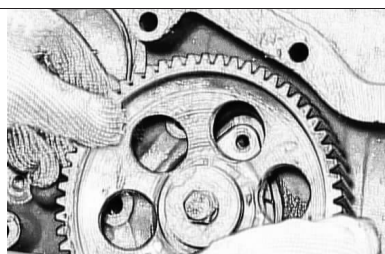

Fig 5-25 Camshaft Installation
2.14 Before installing the camshaft, coat a little bit oil on the bearing of support hole. Turn the camshaft into cylinder block. The thrust of camshaft depends on front thrust plate, so tighten bolts of thrust plate firmly (see Fig 5-25).